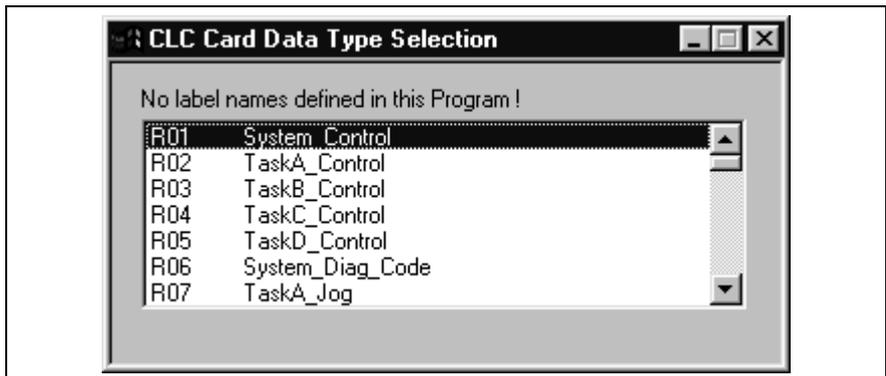

Figure 2-7: Sample Selection List
- Select or fill in the Destination. In our example, we must select Register 100 from the list in the pop-up screen shown in **Figure 2-7: Sample Selection List** OR type 100 as the destination.